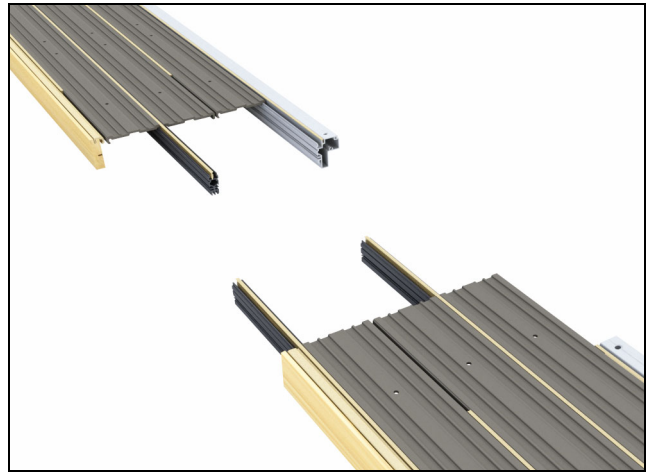

Figure 6
3. Flip the head jamb sections over so the top side is facing up. See figure 6.